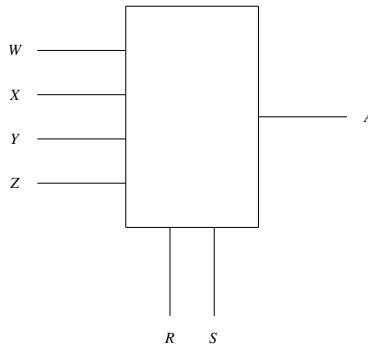

Fig. 4.14
24. Consider the 2-bit multiplexer (MUX) shown in Fig. 4.14. For output to be the XOR of R and S , the values for W, X, Y and Z are _____. (GATE EC 2022)